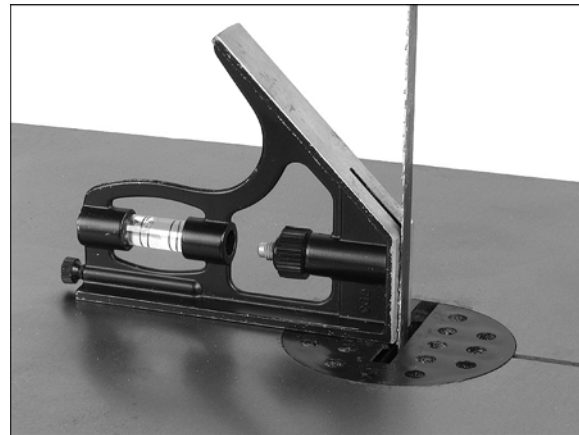

Figure 40
3. Use a square placed on the table and against the blade, as shown in Figure 40, to verify that the table is 90 degrees to the blade. Make sure the table insert is level with the table surface, to ensure an accurate reading.